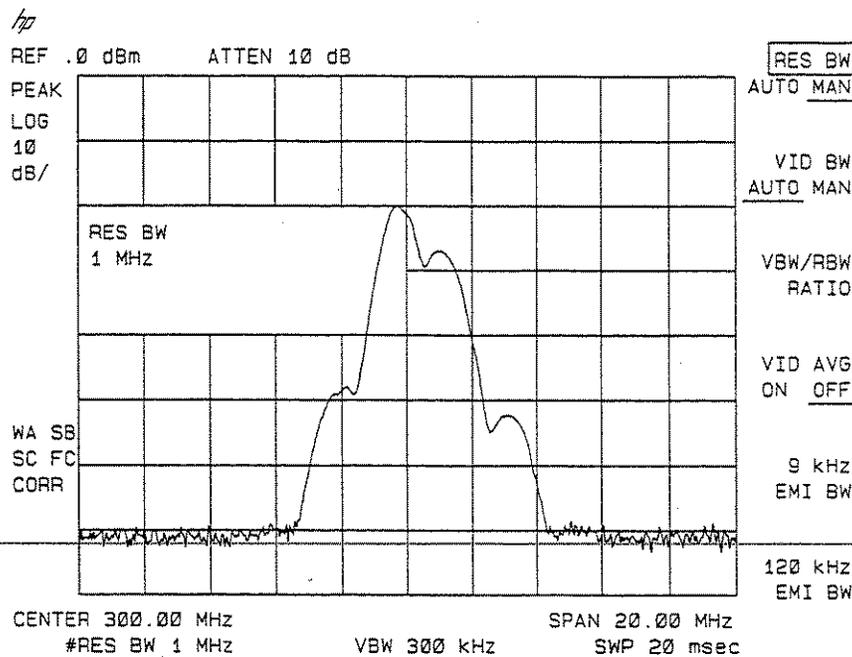

Figure 2-26. Viewing an AM Signal
2. First, center and zoom in on the signal in the frequency domain. (See "Decreasing the Frequency Span Using the Signal Track Function.") Be sure to turn off the signal track function, since the signal track function must be off for zero span. See Figure 2-26.